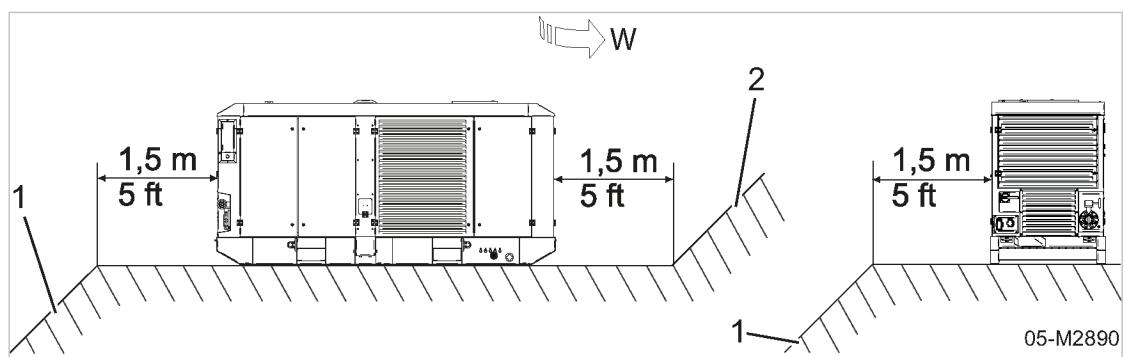

Fig. 18 Minimum distances from excavations/slopes/walls
- ① Excavations
- ② Slope
1. Keep sufficient distance (at least 5 feet) from the edges of excavations and slopes, see Fig. 18.